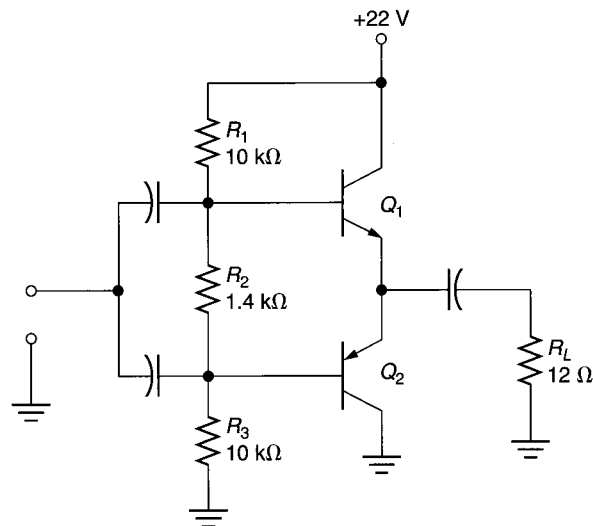

FIGURE 11.55
28. Calculate the value of  $P_S$  for the amplifier in Figure 11.55.
30. Calculate the value of  $P_{L(max)}$  for the amplifier in Figure 11.55.
32. Calculate the maximum efficiency for the amplifier in Figure 11.55.